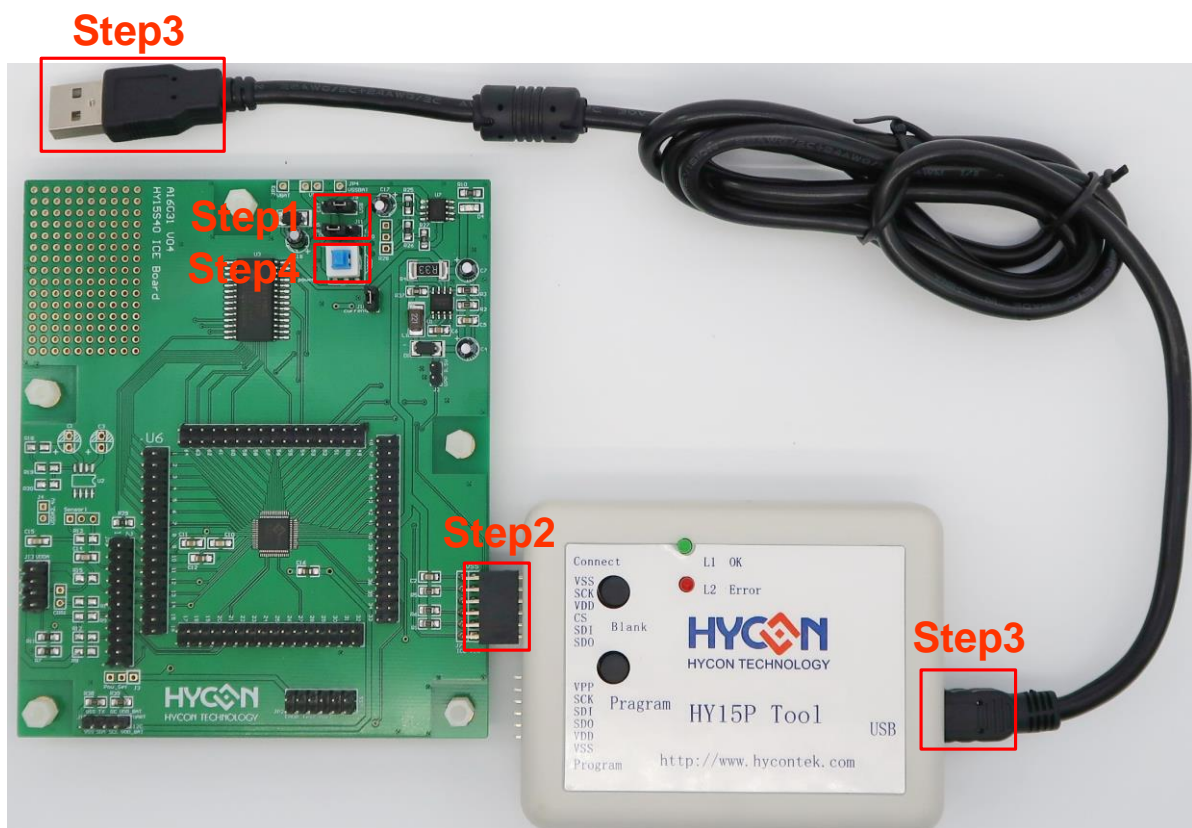

Figure 4-5
- Step5: After Step 1~4 (as shown in Figure 4-5), the hardware connection is completed.